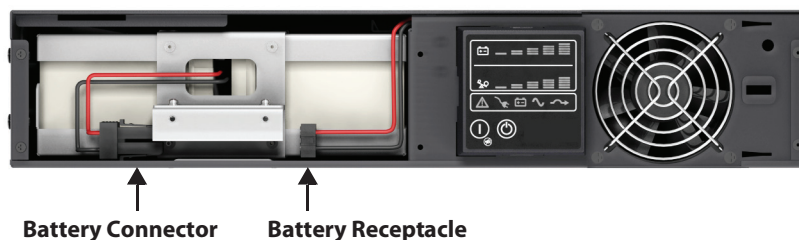

Figure 29: Disconnecting the battery plug and battery receptacle (front view)
4. Gently pull the battery wire out and disconnect the polarized battery plug and battery receptacle, as shown in Figure 29.